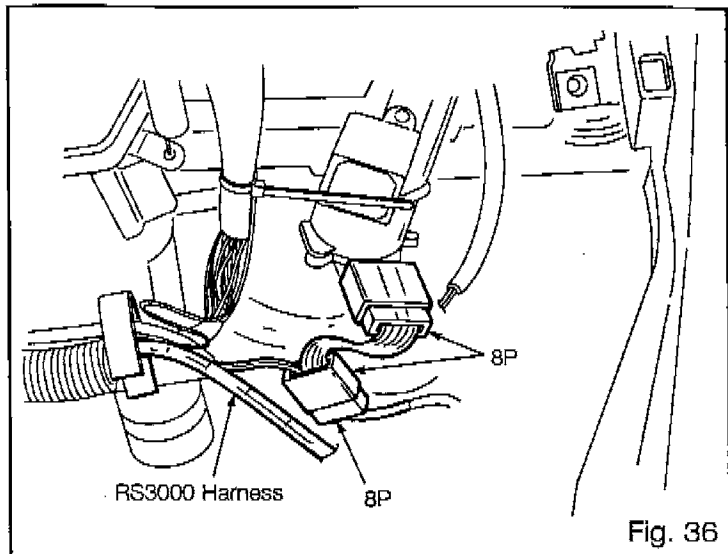

Fig. 36
(18) A) Insert the RS3000 harness' 8P female (terminals) Ignition Switch connector into the Ignition Switch cylinder. Fig 36
B) Insert the vehicle wire harness' 8P female (terminals) connector into the RS3000 harness' 8P male (terminals) Ignition Switch connector. Fig 36